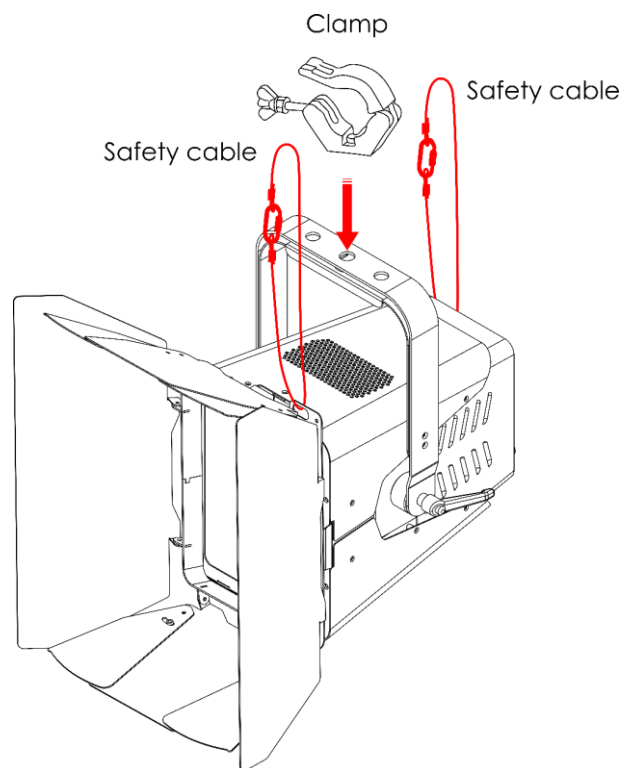

Fig. 06
- 01) Use a clamp to attach the device to the supporting structure, as shown in Fig. 06. Make sure that the device cannot move freely.
- 02) Secure the device with a secondary suspension, for example a safety cable. Make sure that the secondary suspension can hold 10 times the weight of the device. If possible, the secondary suspension should be attached to a supporting structure independent of the primary suspension. Put the safety cable through the **safety eye (07)**, as shown in Fig. 06.